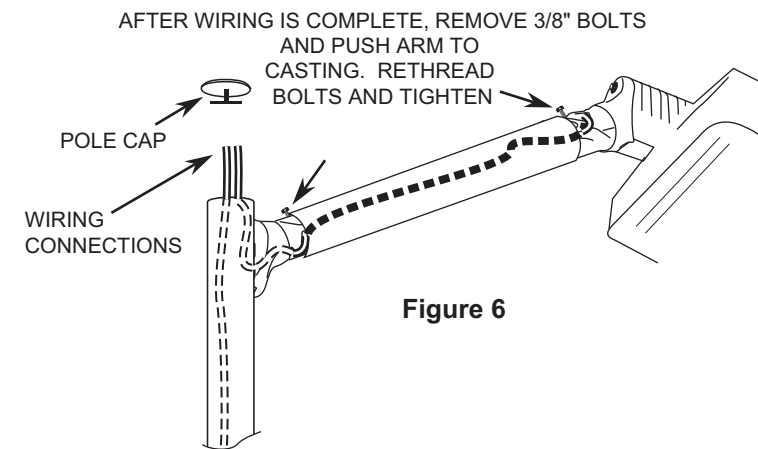

Figure 6
3. Remove the two 3/8" bolts from the top hole in boot castings. Slide assembly together, so the arm ends bottom out against the boot casting ends. Rethread bolts in same holes with lockwashers, this time tightening with socket wrench and 9/16" socket (See Fig. 6).